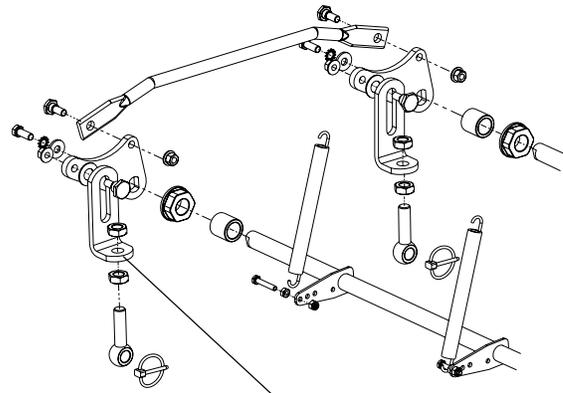

Figure. 5 Deck Links
- c. If the dimension at the front of the mowing deck is 1/8"-1/4" (1/8" for 1-1/2", 1/16" for 1") lower than the dimension at the rear of the deck on each side of the mower, do not adjust. If not, you will need to adjust the Deck Lift Spring Assist (See Figure 5). You may also need to adjust the Deck Links (See Figure 5).